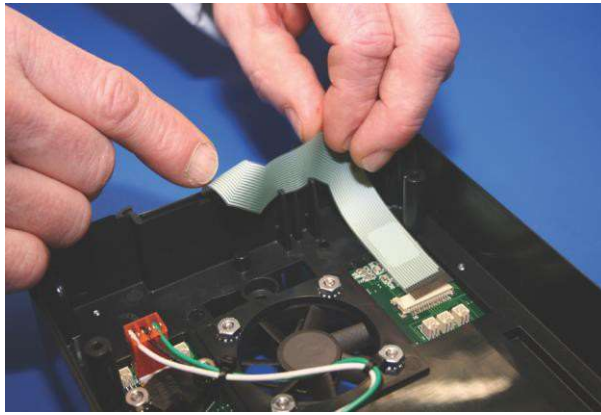

Figure 5.44
- Bend flex circuit 180°, being careful not to crease or fold the flex circuit. (Figure 5.44)